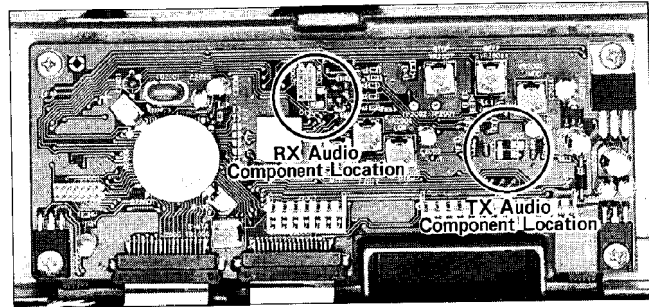

Fig. 1 Modification Component Locations
- Remove the top cover as described on page 50 to expose the CNTL Unit. Refer to Fig. 1 to familiarize yourself with the part locations.